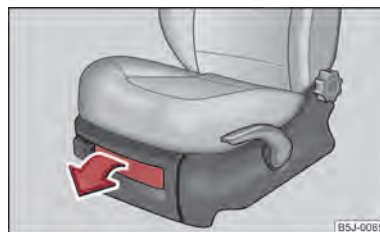

Fig. 68 Front seat: Stowage compartment
- Tilt the lock to open the flap and pull out the flap ⇒ fig. 68.